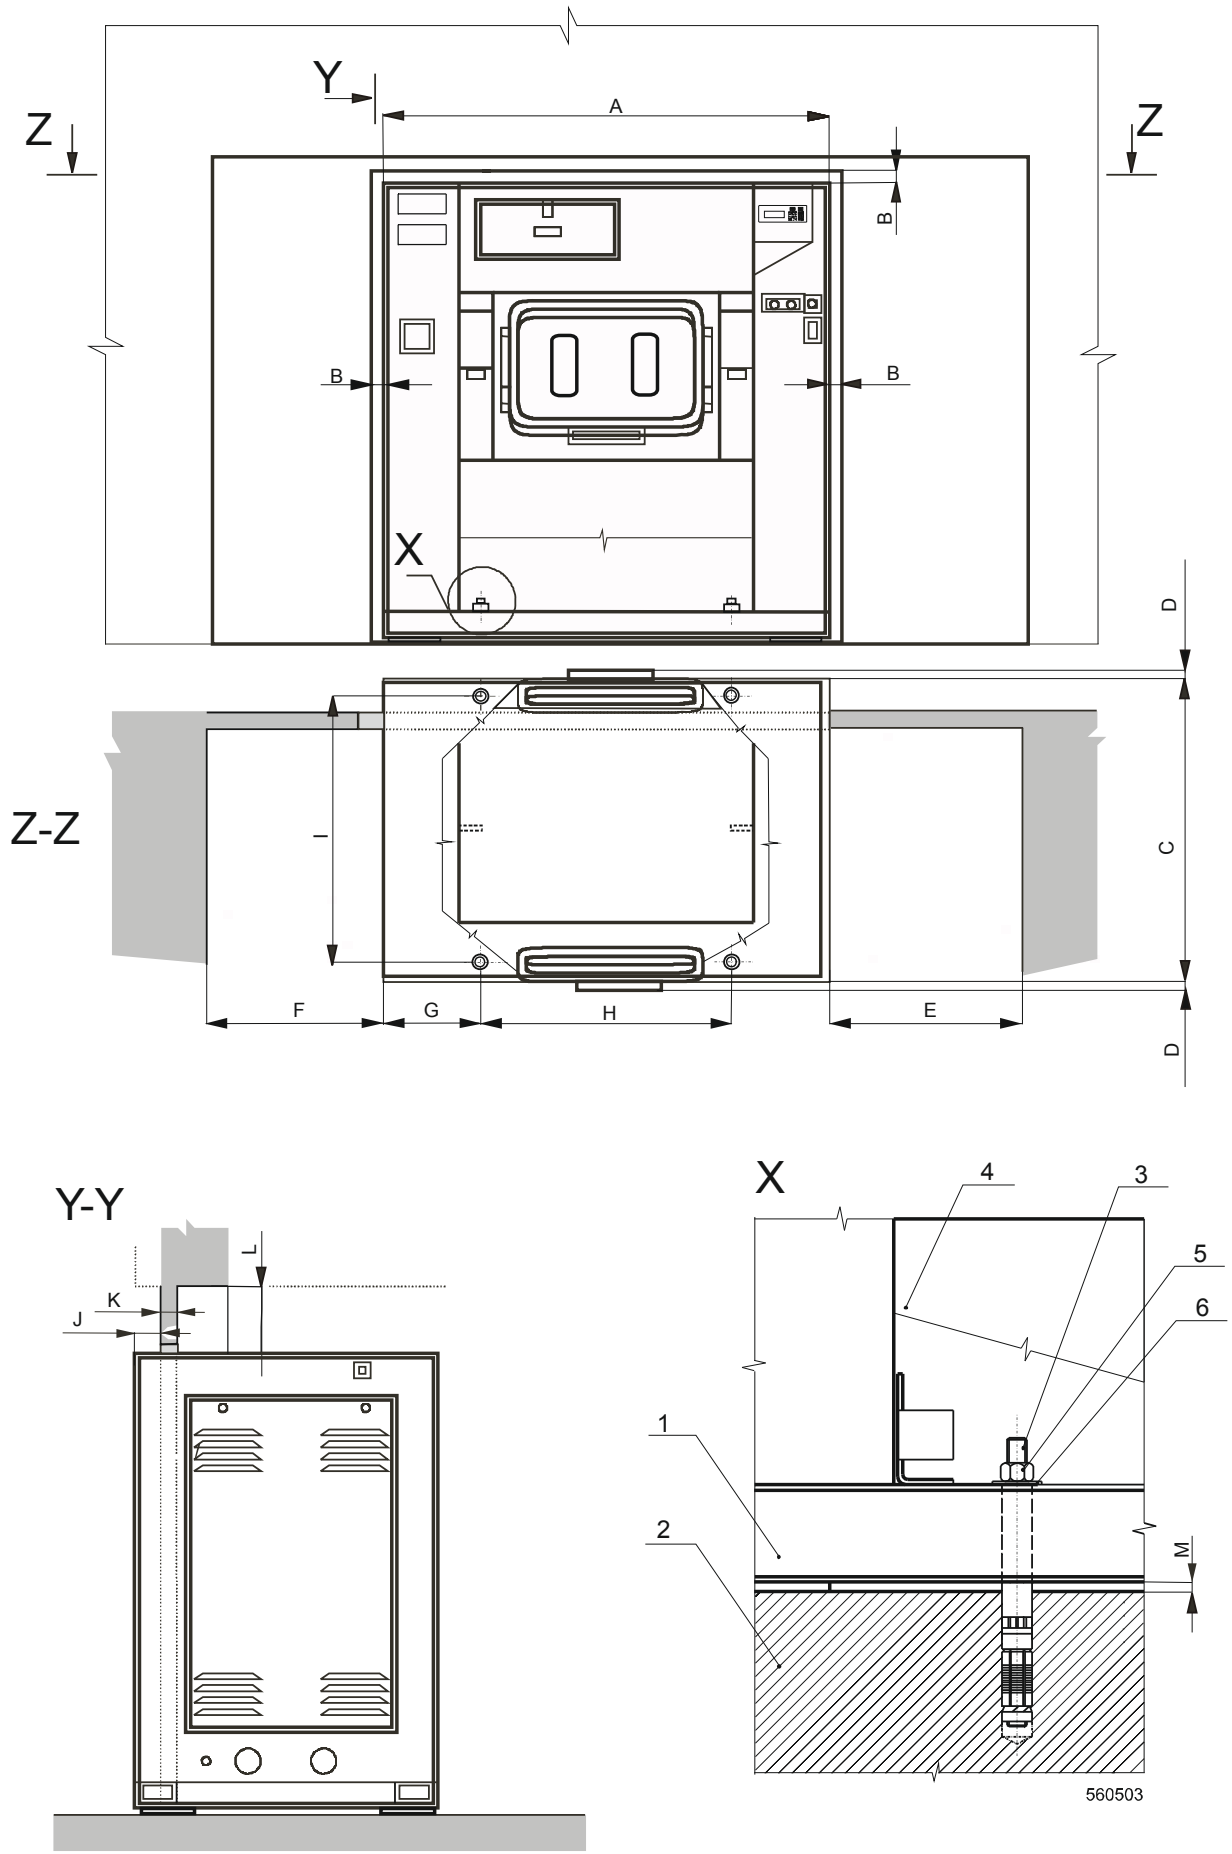

Figure 8.3. – Installation plan (dimensions are stated in mm)
Total space requirements for the system installation are usually determinate by a detailed plan of the building. The machine dimensions are stated in the Chapter “7. TECHNICAL SPECIFICATION”. For replacement of service panel and maintenance of the machine leave at least a 0.6 m / 23.62" free space between the left panel of the machine and the wall and at least a 0.8m / 31.49" free space between the right panel of the machine and the wall or between the machines, Figure 8.3. The waste piping or outlet channel must be dimensioned to the discharged water quantity and a number of washing machines.
In the floor consider only positioning of mechanical anchors for fixing the machine and the suitable drain duct for the waste water. Drill 4 holes into the floor in the spots according to installation plan and the machine model, see Figure 8.3. Dimensions of holes are given in the table 8.3.A. Remove lower covers from the machine (Figure 7.3., 7.4, pos.30 and 31) and install the machine in such a position, so that the holes in the machine lower frame correspond correctly with the holes drilled in the floor. Using a water level, check the position of the machine base frame which must be laid horizontally. The machine is fixed using the anchors, Figure 8.3. Put the slightly assembled anchor (including screw) into the hole and push it gently through profile of the machine lower frame down to the level of washer. Tighten an anchor using a torque given in the table 8.3.A. The machine must be leveled and firmly fastened to the floor which meets static and dynamic load of the machine.